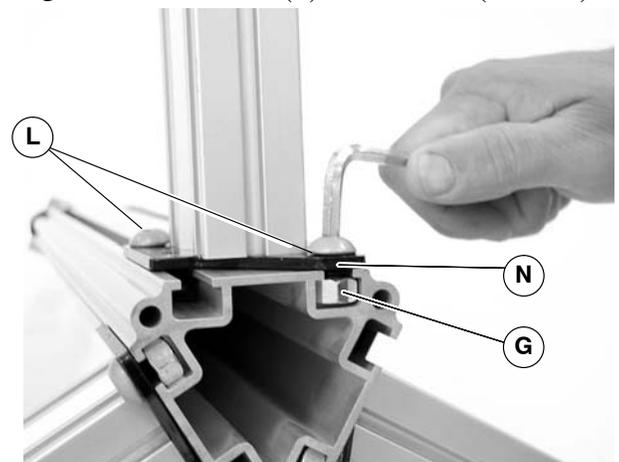

Figure 6
5. Align bottom edge of the end plate (N of Figure 6) with bottom edge of the trileg post (G).
Failure to secure screws (L) of Figure 6) may cause conveyor sections to drop down, causing severe injury.